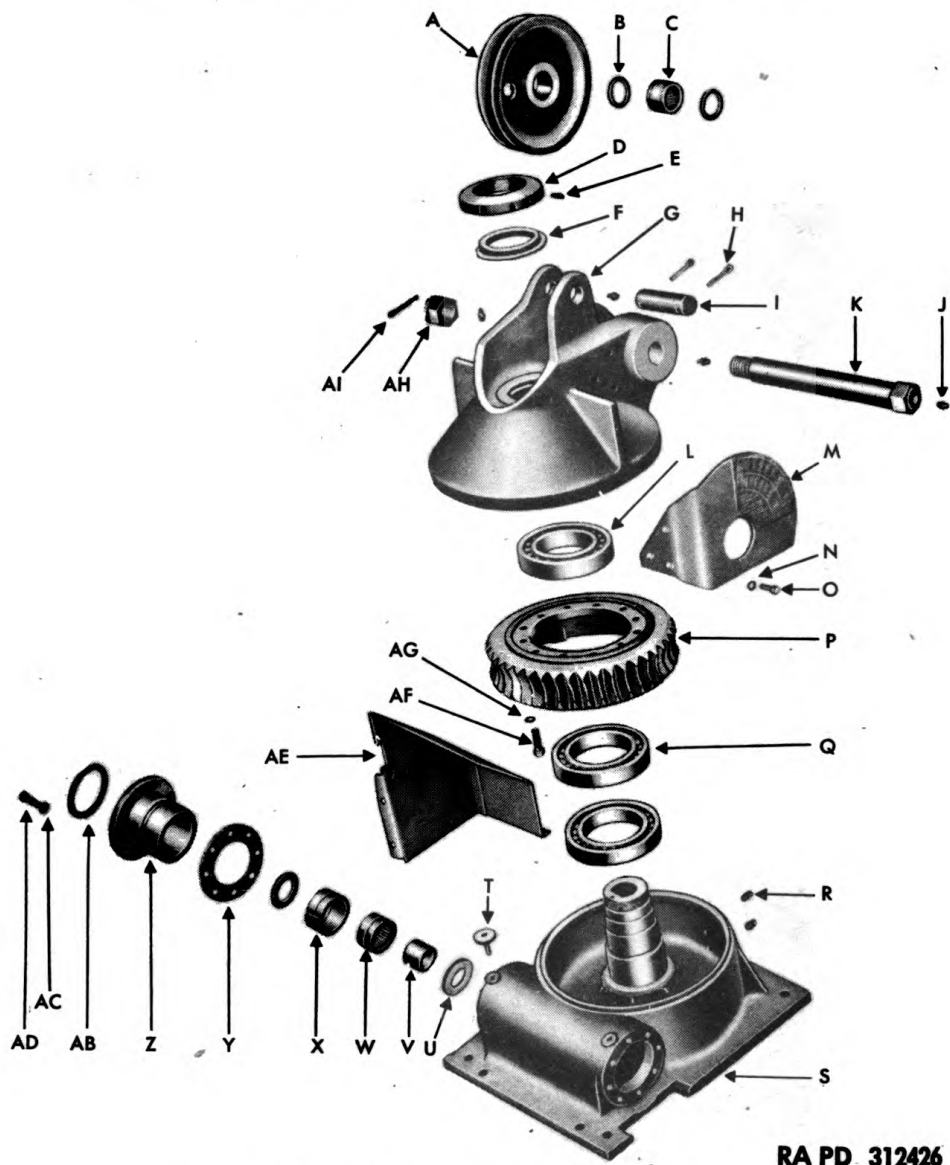

Figure 31 — Boom Pivot — Disassembled
Legend for Figure 31 – Boom Pivot – Disassembled
g. Remove Worm Gear. Using a bearing puller and pulling on the inner race of the bearing remove the bearings from the pivot spindle (fig. 31). Invert the boom pivot and remove 12 special $\frac{1}{2}$ -